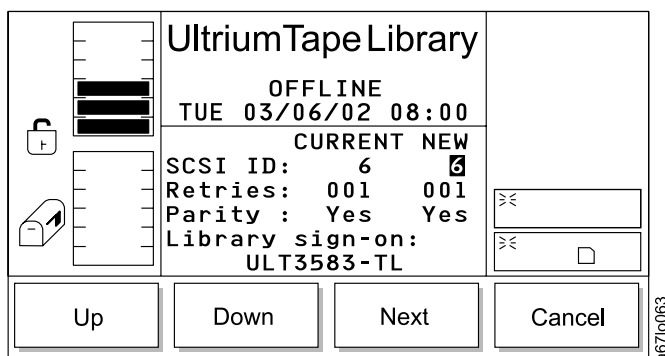

Figure 49. Library SCSI dialog screen
2. Select **Setup** → **Library** → **SCSI**. The SCSI dialog screen displays (see Figure 49). The existing ID is the value in the SCSI ID: CURRENT field.